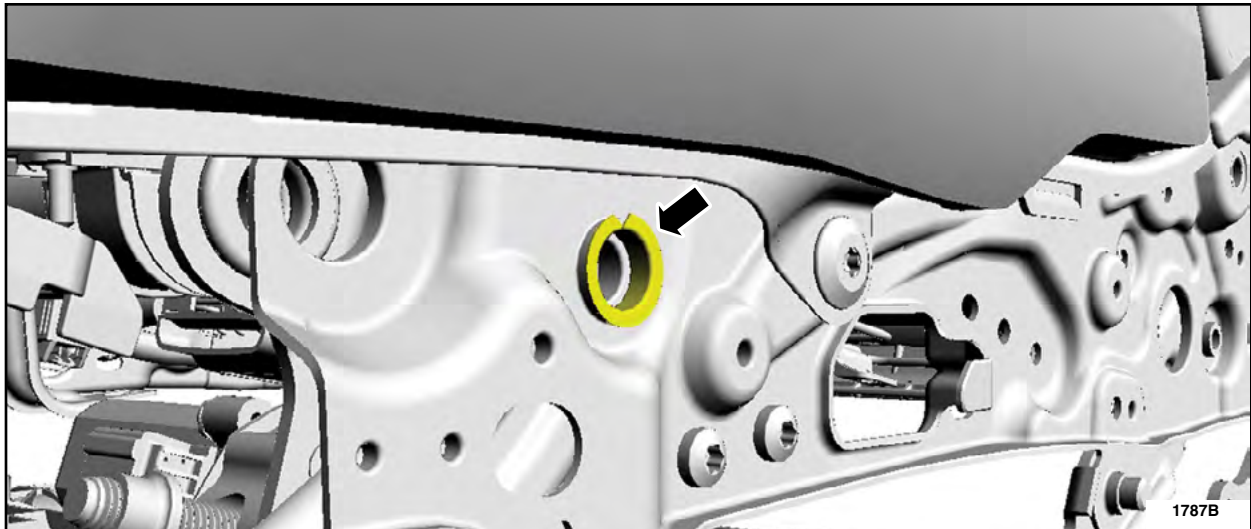

FIGURE 3
7. Inspect the seat track upper pivot link bolt bushing for signs of wear or damage. See Figure 3.